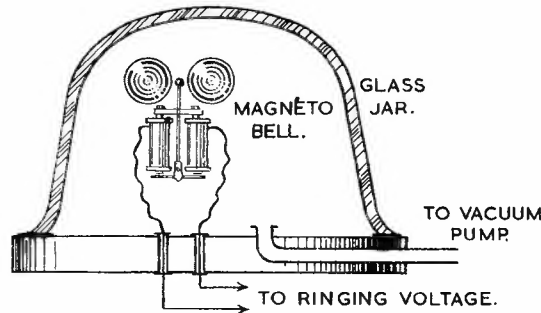

FIG. 1.
STEP 1. Set up the apparatus as shown in Fig. 1.